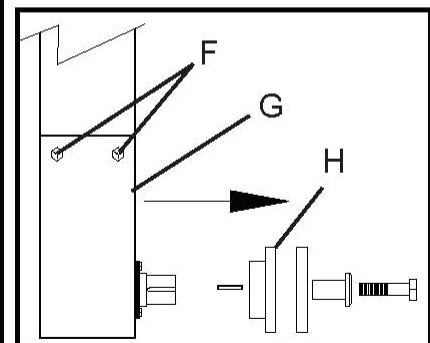

Figure 2
4. Loosen four engine mount bolts (C) on the outside of the frame (two on each side).
5. Using the supplied wrench (D), turn the belt tensioning bolt (E) on the front of the frame. Turning the belt tensioning bolt will cause the whole engine to move on its frame. Turn the bolt clock wise to loosen the belts – counter clock wise to tighten the belts.
Note: To remove belts, you must completely remove belt guard (G) by removing four bolts (F) and parts shown in Figure 2.